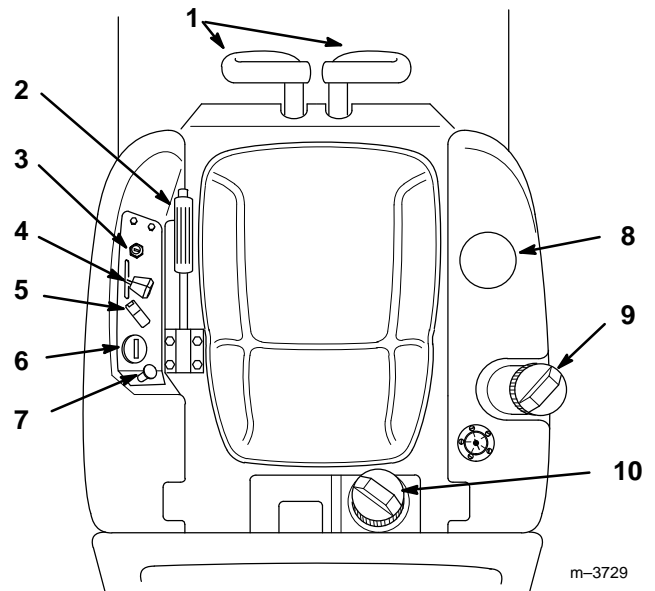

Figure 1
Become familiar with all the controls before you start the engine and operate the machine (Fig. 1).
1. Move the motion control levers to neutral (Fig. 1).